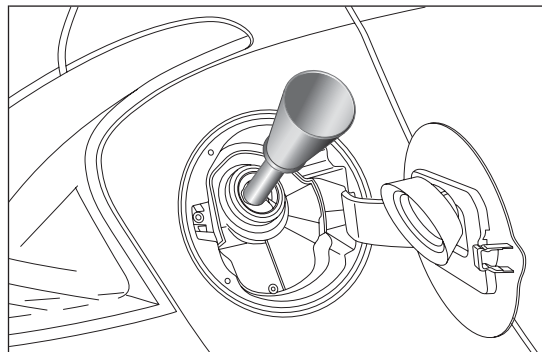

fig. 91
- insert adapter B in the filler as shown in fig. 91 and refuel;